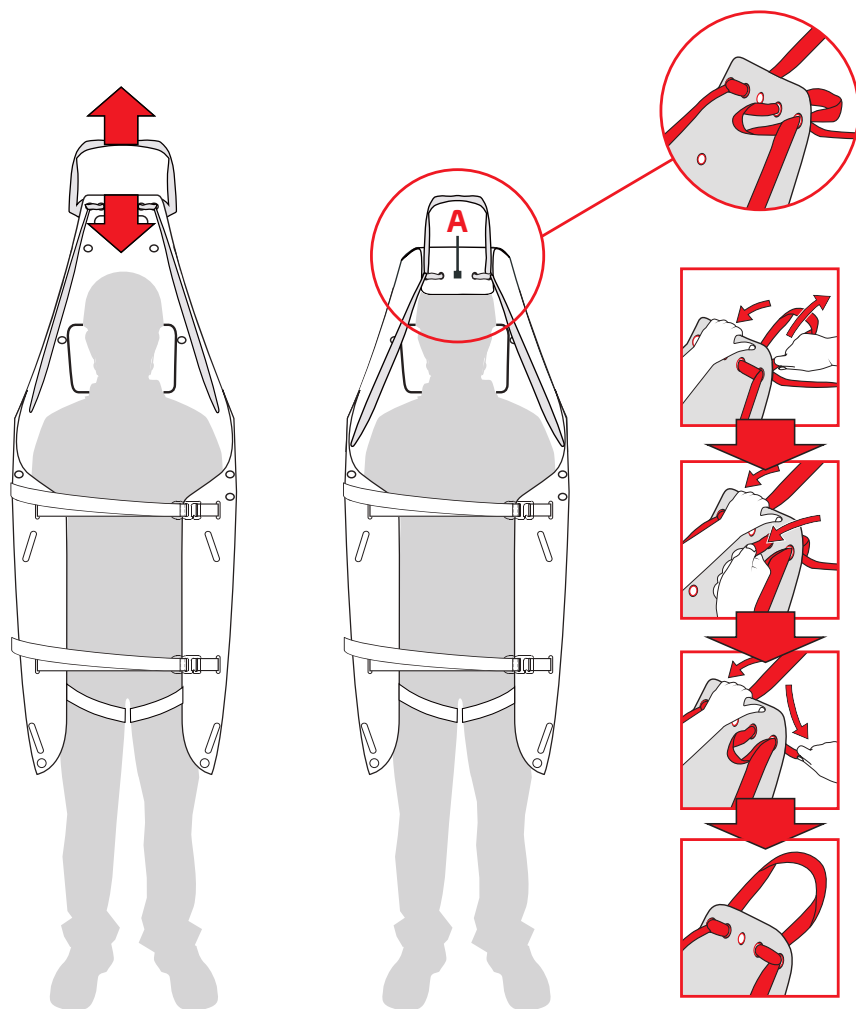

Fig.12
- Insert the thigh straps (L) in the A4 eyelets in the support surface and release the automatic buckles (G) (fig. 12).
- a) Dragging: tension the sling (E) to lift the end part of the support surface (A) enough to contain the head of the patient and immobilise it (fig. 12).